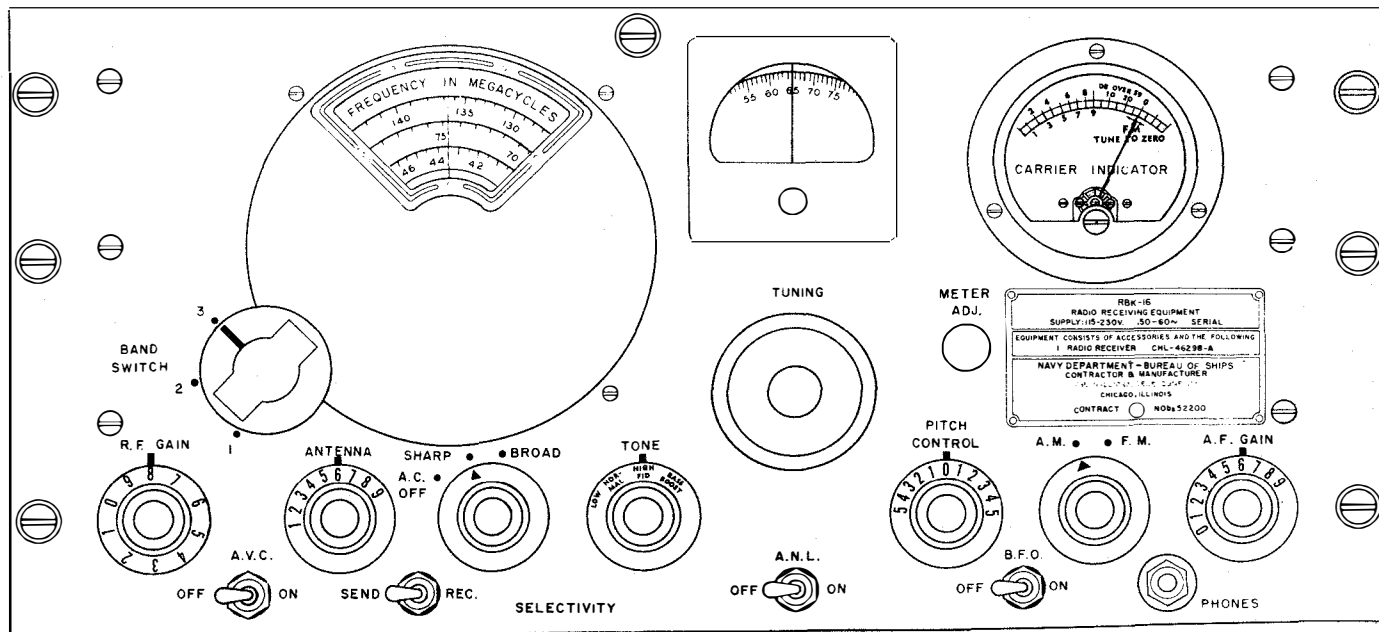

Figure 4-1. Radio Receiving Equipment Navy Model RBK-16, Panel Controls.
a. TUNING METER ADJUSTMENT (see figure 4-1 or 4-2).
(1) The tuning meter zero setting control resistor R58 is located behind its front panel button type cover, marked METER ADJ. Remove the button with a knife or screw driver blade.